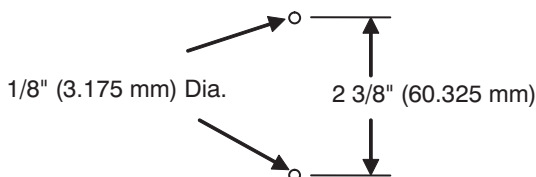

Fig. 1 - Relay Mounting Hole Detail
5. Punch or drill two 1/8" (3.175 mm) diameter holes in the center of the blank plate, 2-3/8" (60.325 mm) apart. (See Fig. 1)